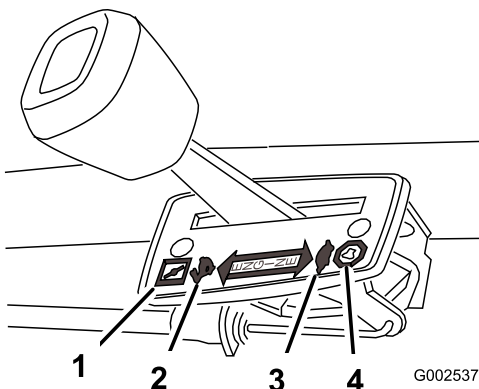

Figure 6
The throttle settings are shown in (Figure 6).
3. Move the throttle control lever to the Choke position (Figure 6).